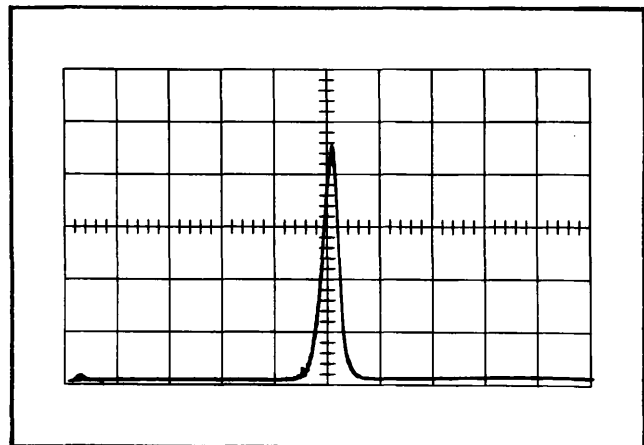

Fig. 2-2. Display of a signal with the DISPERSION-KC/CM switch at 2.
7. Reset the FINE R-F CENTER FREQ control to position the displayed spectra to the middle of the trace. At this point the display should resemble that shown in Fig. 2-2. The frequency window is now 20 kc wide (ten divisions) and centered about the input signal frequency. If it is desired to narrow the dispersion further, move the signal to the center of the trace prior to narrowing the dispersion.